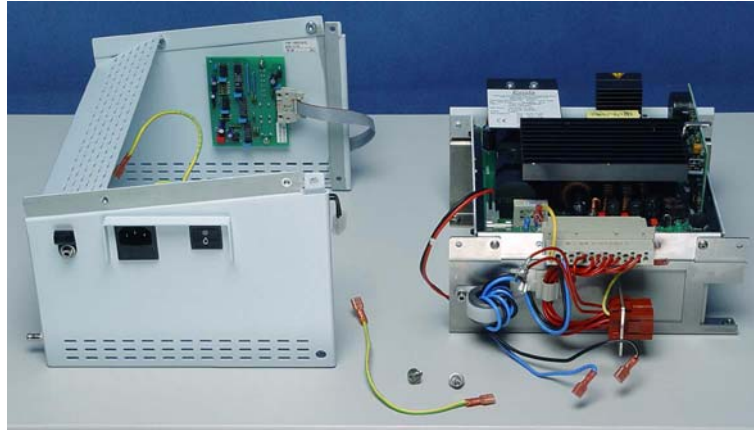

Figure 11-16. The separated container and power supply
3. Using extreme care, separate the power rear cover, power supply/chassis, and the GALILEO housing. (Figure 11-16.)